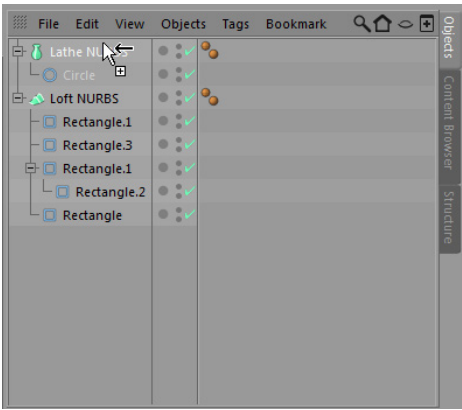

Figure 2-46 The changed shape of the cursor in the Object Manager
7. Select **Lathe** in the Object Manager. Press and hold the left mouse button along with the CTRL key; the shape of the cursor is changed, as shown in Figure 2-46. Next, drag **Lathe** in the empty space above it and then release the left mouse button; a copy of **Lathe** is added with the name **Lathe.1** to the Object Manager.